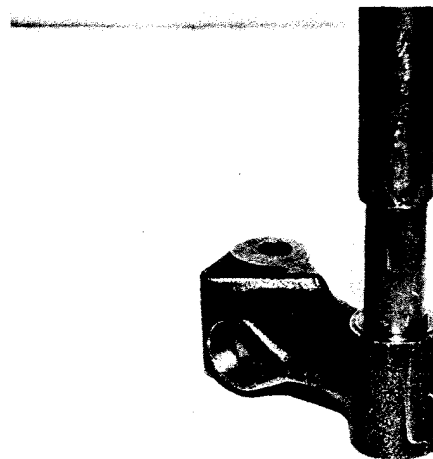

Fig. 4-13, (N10403). Removing cam follower bushing
1. If cam follower with bushing is worn beyond that listed in Table 4-1, remove bushing with ST-249 Mandrel and Block. Fig. 4-13.